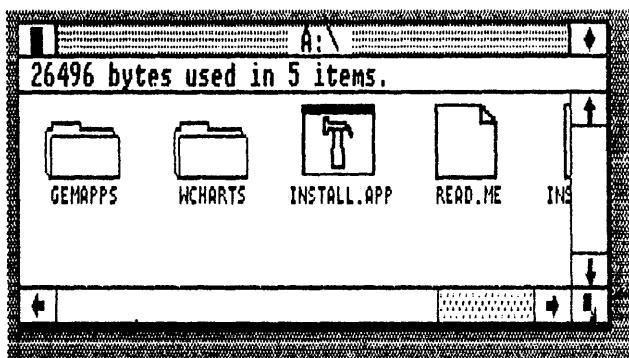

Fig. 6-1. Double-click on the INSTALL.APP icon for installing GEM WordChart.
- ☐ Double-click on the INSTALL.APP icon (Fig. 6-1).